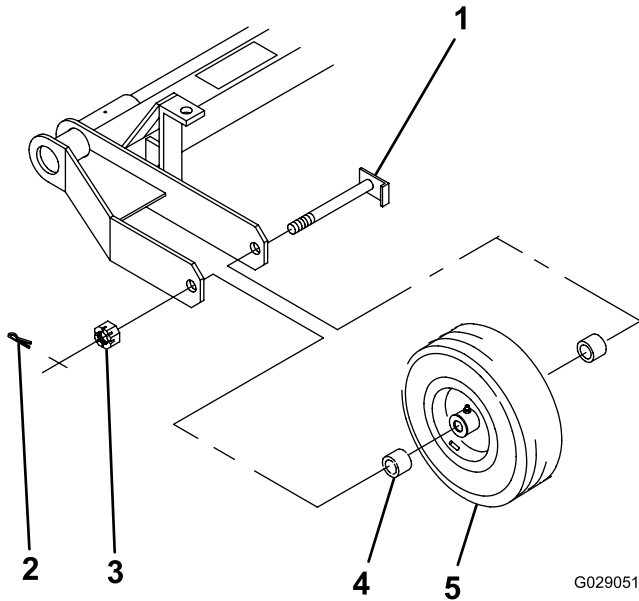

Figure 3
1. Position the wheel assembly and 2 spacers (1 on each side of the wheel hub) between the frame as shown in Figure 3.
2. Insert the axle through the frame, spacers, and wheel (Figure 3).